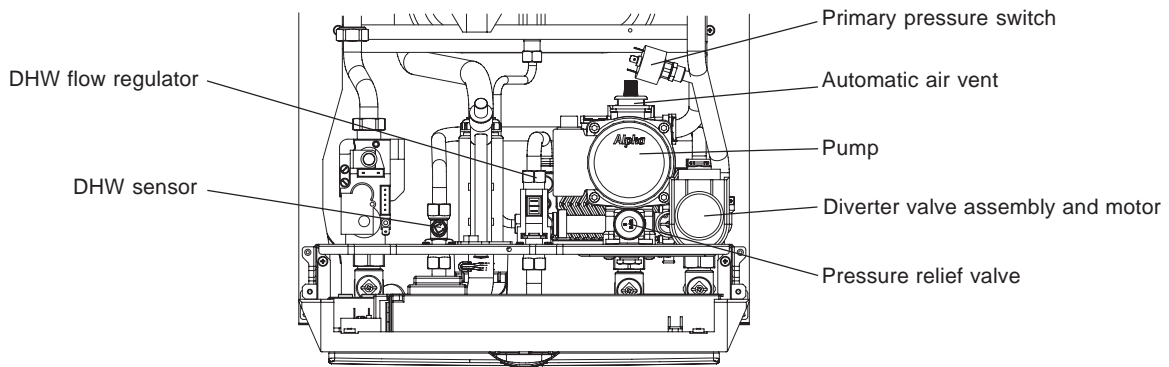

Fig. 30
- 2a. **DHW Sensor** - Close the mains cold water inlet valve and open the lowest hot water tap to drain the DHW system. Disconnect the wiring and unscrew the sensor, see Fig 30. Re-assemble in reverse order with a new sensor, replacing the sealing washer if necessary.
8.23 AUTOMATIC AIR VENT - Fig. 30
8.24 PUMP - Fig. 30
2. Connect the plug to the new head. Ensure the pump is set to maximum (3) and re-assemble in reverse order.
8.25 PRIMARY PRESSURE SWITCH - Fig. 30
8.26 PRESSURE RELIEF VALVE - Fig. 30
8.29 DIVERTER VALVE ASSEMBLY - Figs. 30